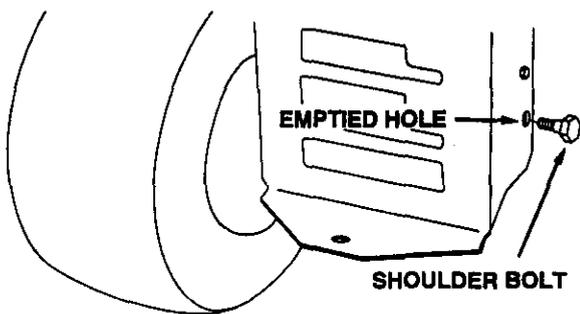

FIGURE 1
FOR TRACTORS RESEMBLING FIGURE 1:
- Remove the bolt from the hole on each side of the tractor frame as shown in figure 1.
- Assemble the two shoulder bolts to the now empty holes. **Tighten.** See figure 1.